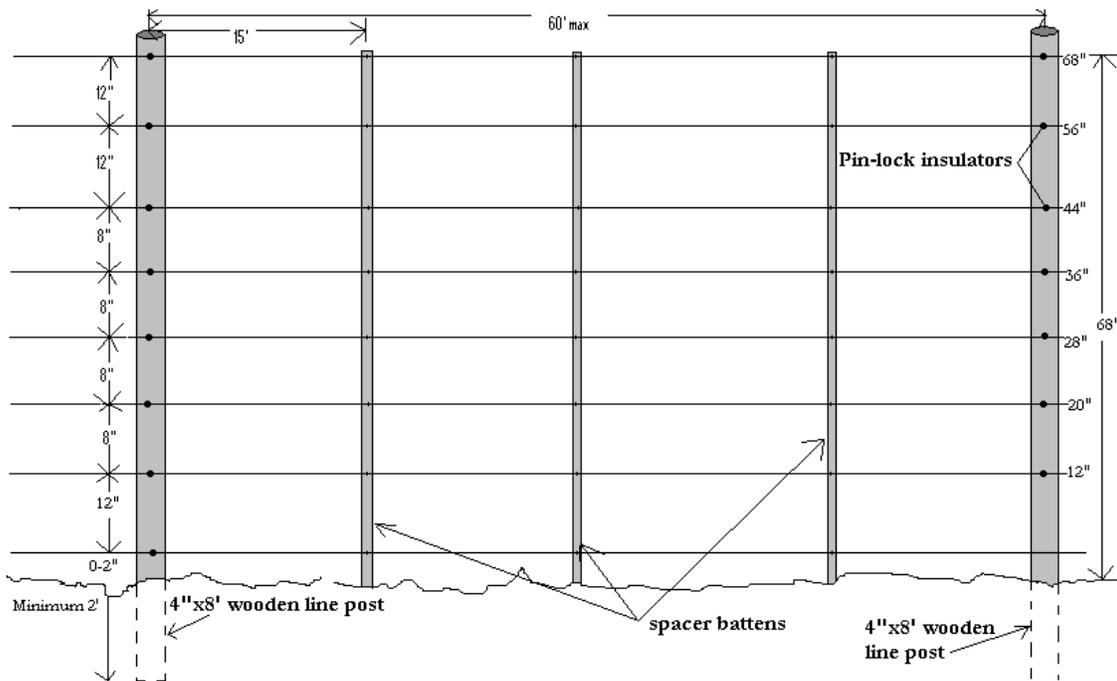

Figure 16. 6 foot, 8-wire vertical fence line post detail. Note an additional wire may be added at 6" above the ground if raccoon control is necessary.
1. Pressure treated wooden line posts (4"x8") are set 2 feet deep, 60 feet on center, and plumb to the outside (wire side) of the fence. Spacer battens (6' length of 1/2" PVC) used in conjunction with the wooden line posts should be predrilled, with holes lining up with the appropriate wire spacing (see **Figure 16**). Spacer battens should be placed at 15' intervals between each set of line posts.